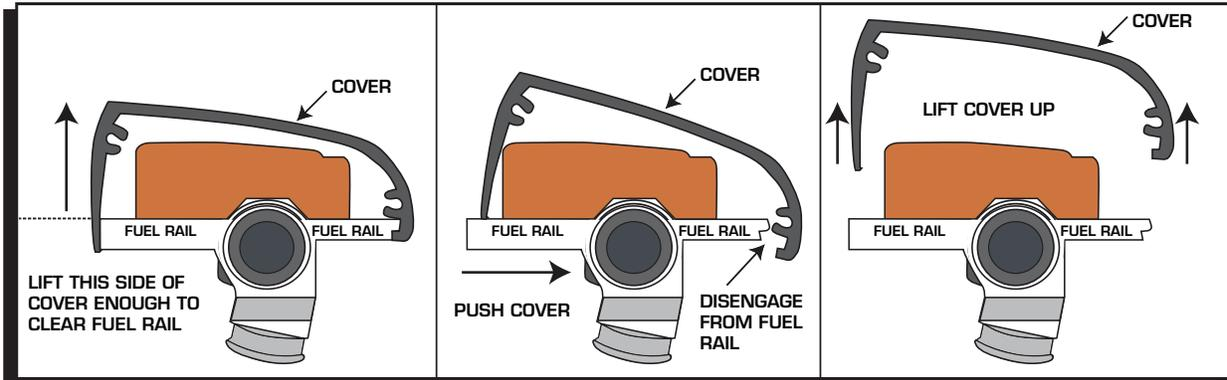

Figure 3 Removing Fuel Rail Covers.
1. The fuel rails are supplied with the covers in place. Remove the covers to prepare and install the rail assemblies (Figure 3). Also, determine which rail is which by reviewing the sensor connectors and location as shown in Figure 9 on page 8.